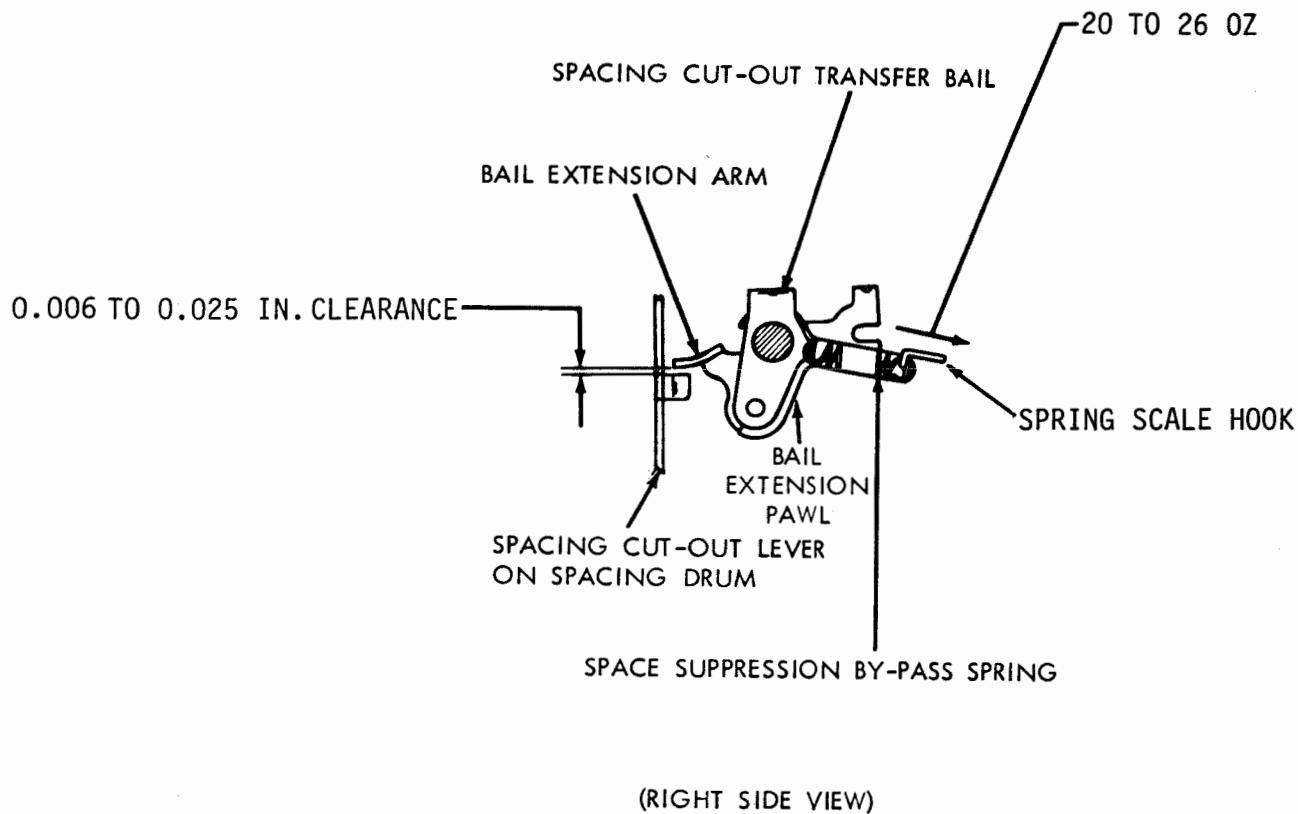

Figure 6-184. Right Margin and Space Suppression Bypass Spring
- (a) Refer to figure 6-184.
(18) Space Suppression Bypass Spring.